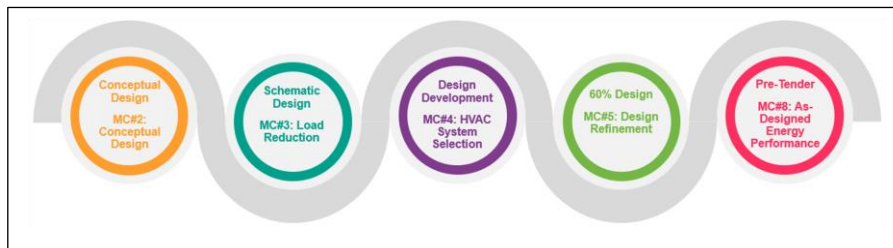

Fig. 4: Building Energy Modeling Process Through Design
The Technical Design Requirements for Alberta Infrastructure Facilities (TDR) establishes the energy modeling process through ASHRAE Standard 209 and defines the modeling cycles (MC) required in each project phase, as shown in Fig. 4.